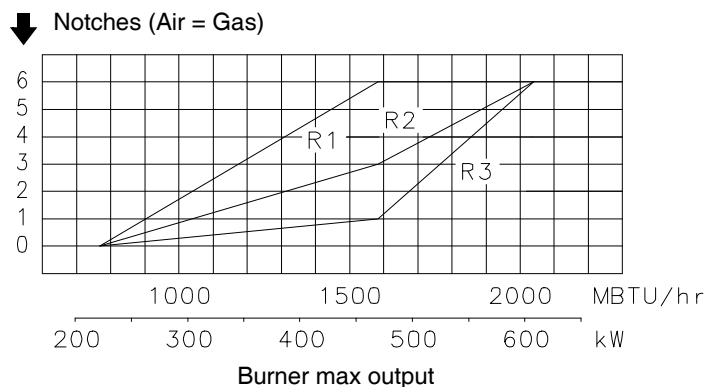

Fig. 14
In diagram (Fig. 14) find the notch to use for adjusting the air and the gas, and then proceed as follows:
If we consult diagram (Fig. 14) we find that for this output, the adjustments are:
- column 1: gas ring R2-R3)(Fig. 13) adjusted as indicated in diagram (Fig. 14);
- Gas ring 2-5)(Fig. 13) adjusted as indicated in diagram (Fig. 14)